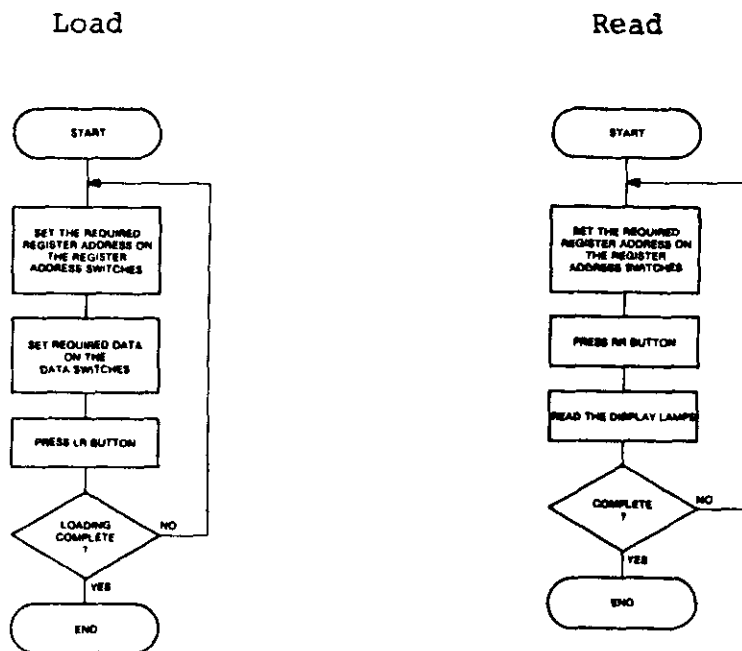

Figure 4.7. Computer Full Panel, Load and Read Register routines.
Figures 4.7 and 4.8 show the procedures for loading and displaying the contents of the general purpose registers and of memory locations. The CPU Program Status Word may be displayed by depressing the RST button.
- \* Using the load register routine (figure 4.7), load register A0 with the required start address.